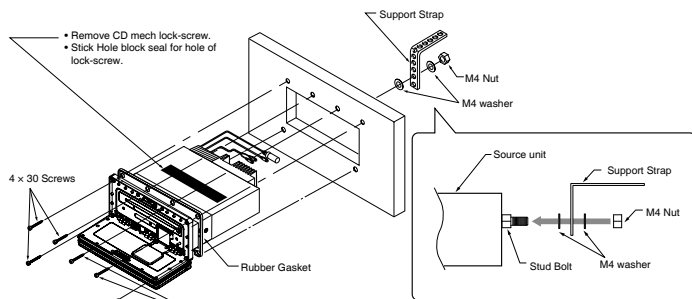

Figure 5
1. Insert the source unit into the cutout hole until to the end. (Figure 5)
2. Using the supply screws (4 x 30) to secure the source unit. (Figure 5)
3. Using support strap to secure the source unit on the back side by supply M4 nut. (Figure 5)